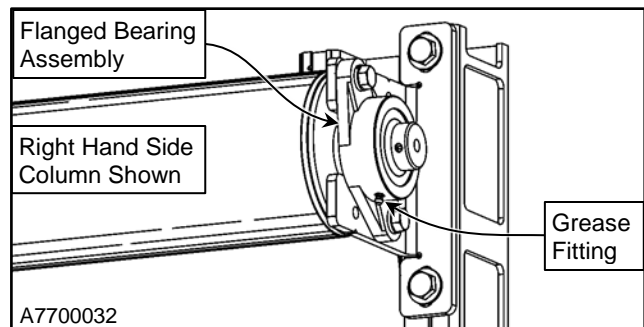

Figure 25
1. The fabric roll is supported by a flanged bearing located on the roll shaft end opposite the motor/brake assembly. The flanged bearing is equipped with a grease fitting. Recommended lubrication is a lithium-based grease conforming to NLGI Grade 2 standards. It should be medium viscosity, low torque, with an operating temperature range of  $-30^{\circ}\text{F}$  to  $+200^{\circ}\text{F}$ . (See Figure 25)